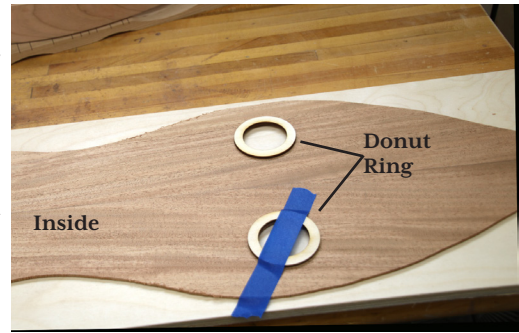

FIG. 7
**EASY INLAY MOUNTING** - Cut round holes a little larger in diameter than the size of the rosette (1/8" or 1/4" larger). Glue a "donut" around the hole on the inside surface to provide a ledge on which to glue the rosette. (fig. 7) The outside diameter of the donut must be larger than the hole, and the inside diameter must be about 1/4" smaller than the diameter of the rosette. Musicmakers has donuts available for each size rosette.